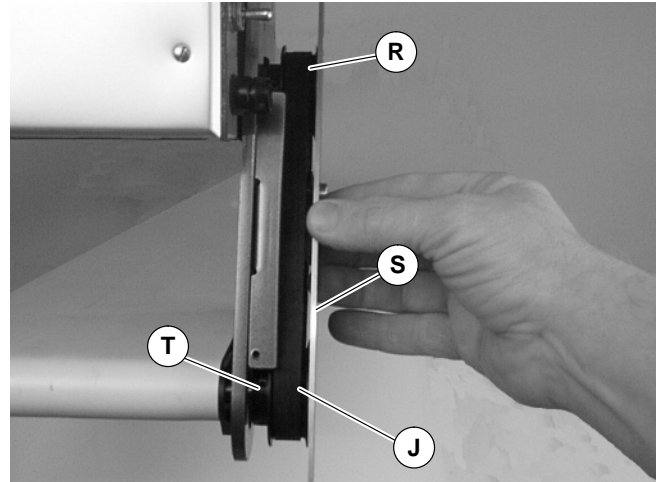

Figure 6
5. Wrap timing belt (M) around driven pulley (J) and drive pulley (R). Install driven pulley (J) onto conveyor shaft.
6. Using a straight edge (S of Figure 6), align driven pulley (J) with drive pulley (R). Tighten driven pulley set screws (T).